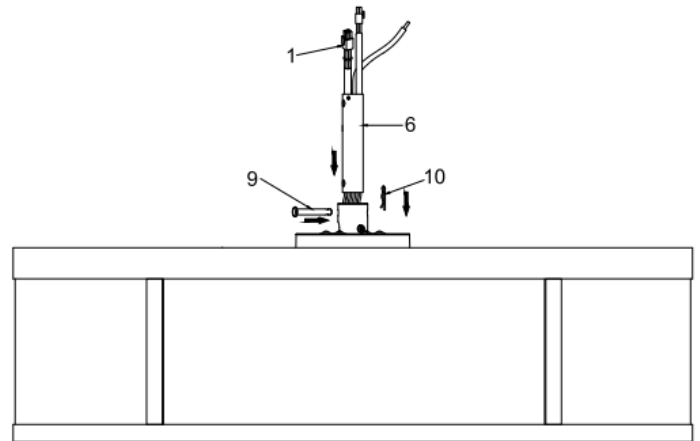

Fig. 5.3
3. Carefully feed the fan wires (1) up through the down rod (6). (fig. 5.3)
4. Assemble the down rod (6) into the down rod coupling housing (8), by inserting and line up the down rod coupling housing holes with the down rod holes and insert the hitch pin (9) and secure with the lock clip (10). (Fig. 5.3)